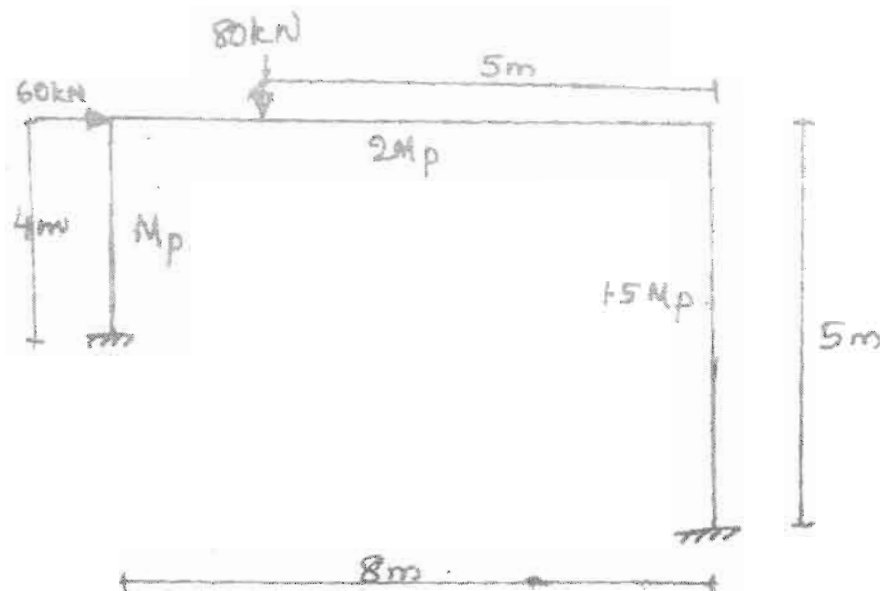

Fig. 6
- (b) Determine the plastic moment capacity M_p for the frame shown in Fig. 6